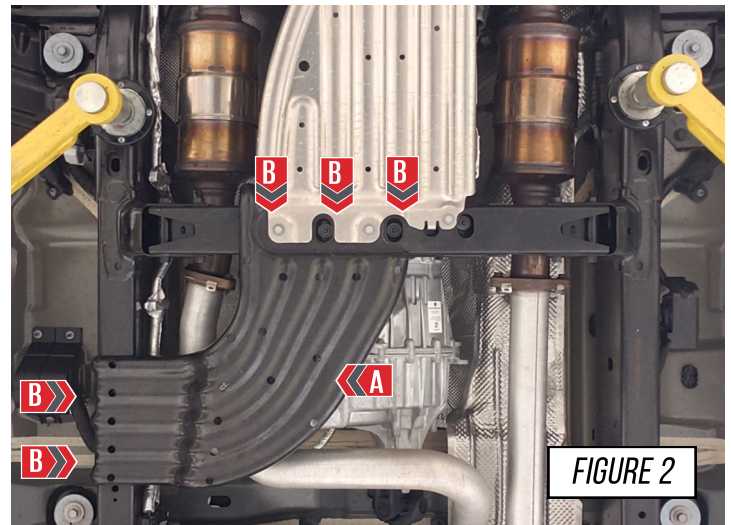

FIGURE 2
Begin by removing the OE skid plate (A), as shown in **Figure 2**. This is done by removing the bolts marked by the red arrows (B).